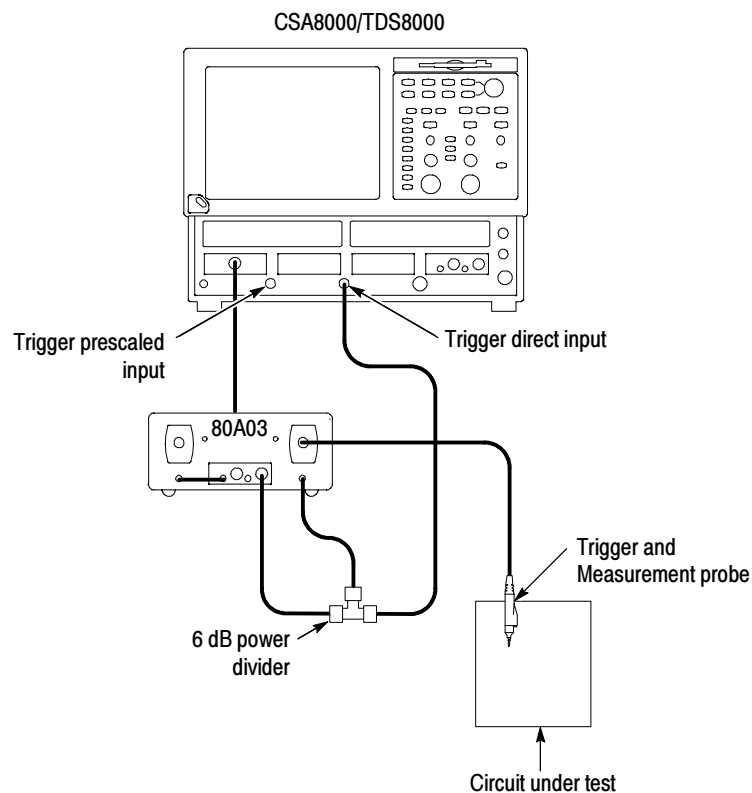

Figure 11: Setup for triggering the sampling oscilloscope and viewing signals using the 80A03 TekConnect Probe Interface Module
2. Use a 0.5 m SMA cable to connect the 6 dB (2X) power divider to the disconnected CH B SMA connector on the TekConnect Probe Interface Module. See Figure 11.
3. Use a 0.5 m SMA cable to connect the disconnected port on the sampling module to one side of the 6 dB (2X) power divider. See Figure 11.
5. Attach a TekConnect trigger probe to CH B on the TekConnect Probe Interface Module. See Figure 11.